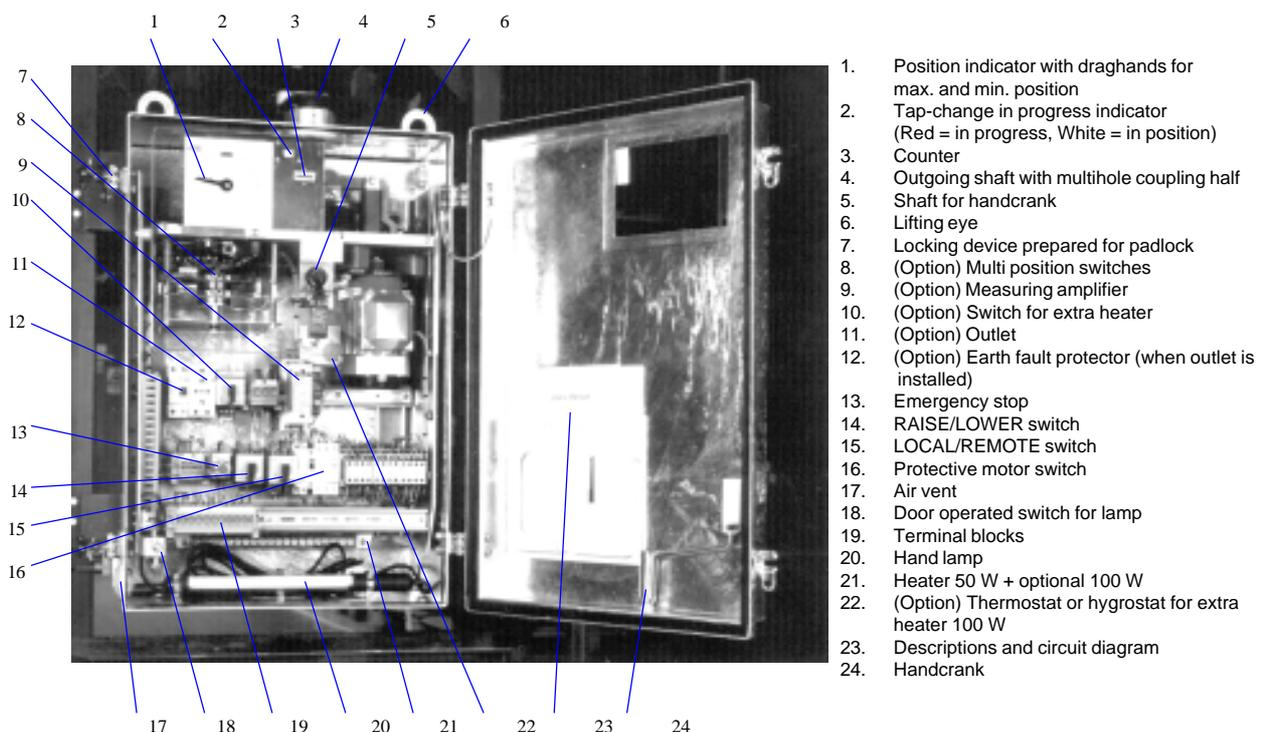

Fig. 3. Motor-drive mechanism, type BUL
6. Check the emergency stop. (BUL) See figure 3.
7. Check the ground fault protector (option BUL). See figure 3.